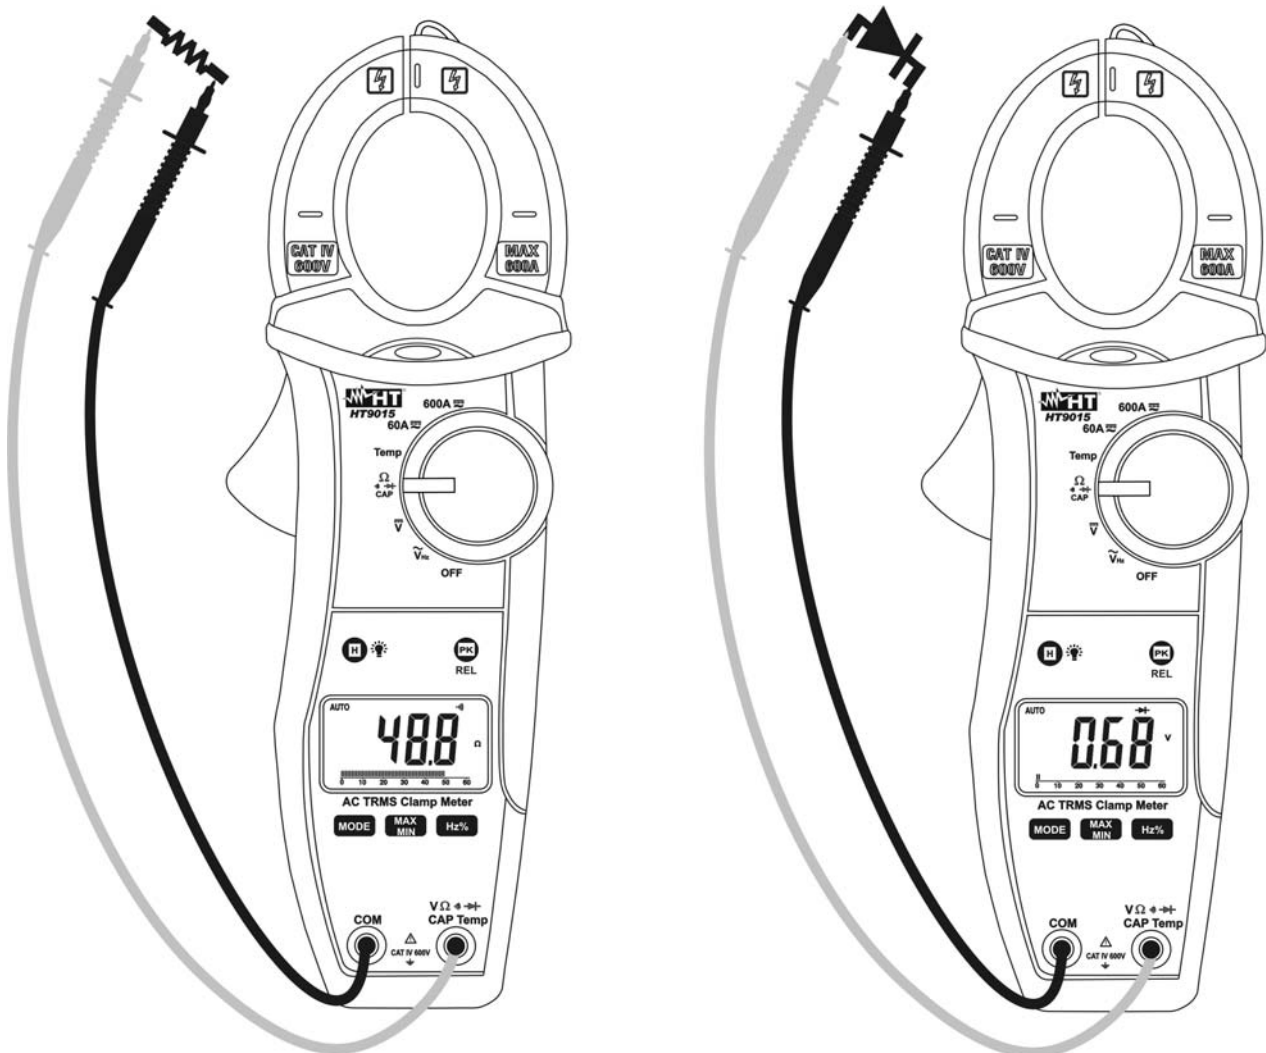

Fig. 6: Taking Continuity test and Diode test
3. Insert the red test lead plug into  $V \Omega \rightarrow \text{CAP Hz \% Temp}$  jack and the black test lead plug into **COM** jack and perform continuity test on the object under test (see Fig. 6 – left side). Buzzer emits sound if the measured resistance value is less about  $60\Omega$
5. Connect the red test leads to the anode of diode on test and the black test lead on the cathode ones (see Fig. 6 – right side). Reverse position of test leads to reading reverse polarization voltage